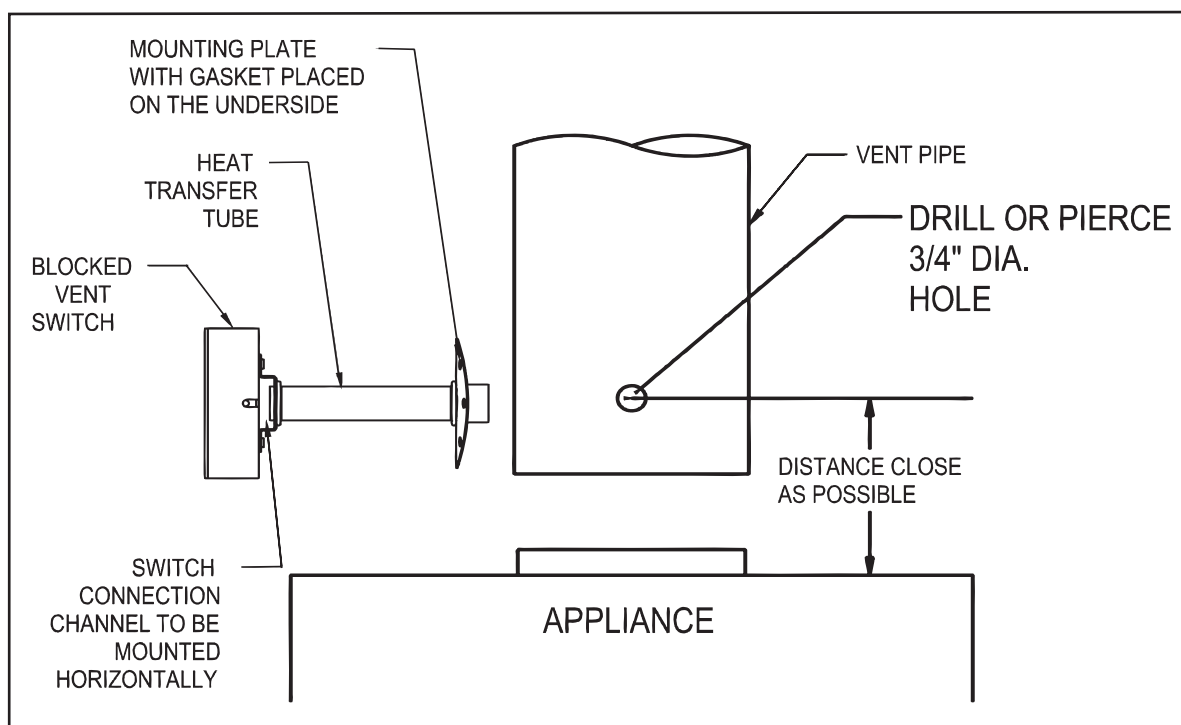

Figure 5
See the appliance manufacturer's instructions for the specific location. If the appliance manufacturer does not specify a location, refer to figure 5.
1. Drill or pierce a clean hole (about $\frac{3}{4}$ " diameter) in the vent pipe near the appliance outlet. (See Figure 5)
4. Secure the assembly to the vent pipe with a minimum of 4 sheet metal screws. The channel must be mounted horizontally, unless specified differently by the appliance manufacturer. (See Figure 5)